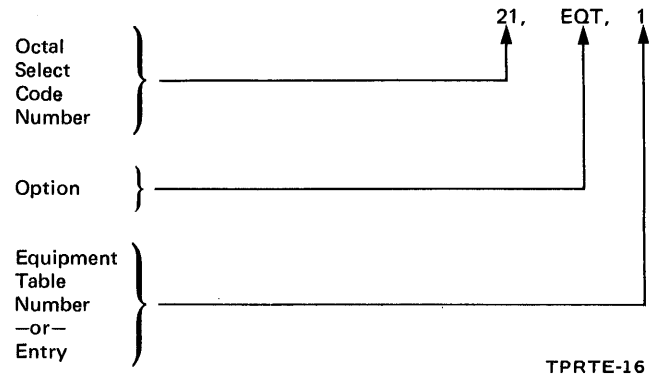

Figure 6-7. INT Table Example
STEP 26 – This table allows the user to establish interrupt links that tie the octal select codes back to EQT numbers. Each I/O card (select code), in ascending order, is referenced back to its EQT entry number that was established in the Equipment Table Entry part. If dummy I/O slots were used to reference EQT numbers for the Batch and Spool Monitor Driver DVS43, interrupt links for those entries are also necessary. For example (refer to the sample generation in Appendix C), EQT number one (the first entry) was assigned to I/O slot 21, DVR31. Now, in the interrupt table, I/O slot 21 will be referenced back to EQT number one. In this manner, an interrupt occurring on I/O slot 21 will be directed to EQT number one which has the address of DVR31 and that driver will be entered. The format for the entry is shown in Figure 6-7.
Refer to Figure 6-7 and construct the entries for the interrupt table as follows: